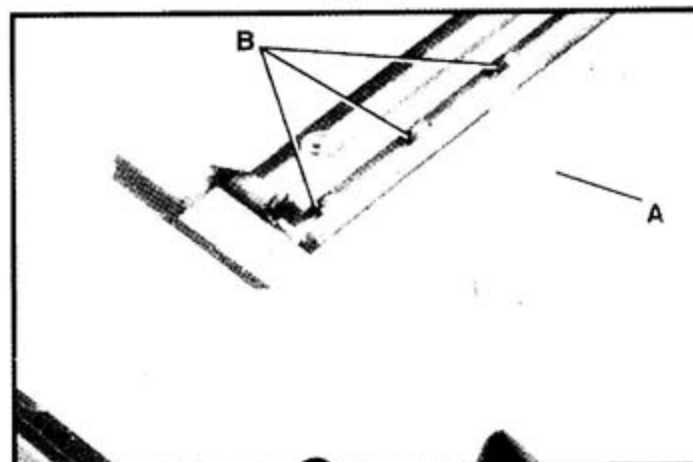
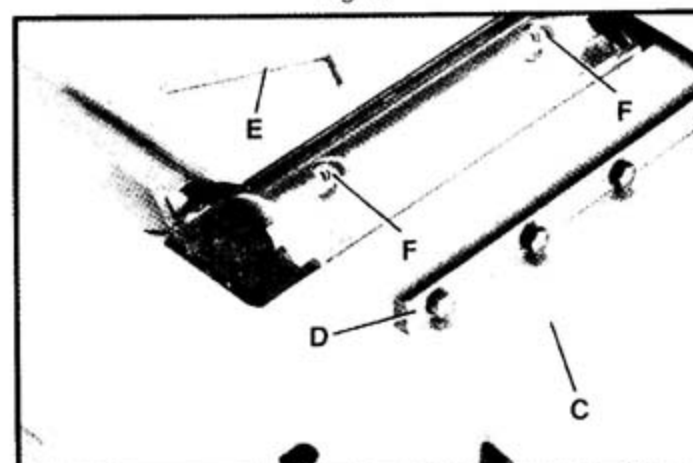
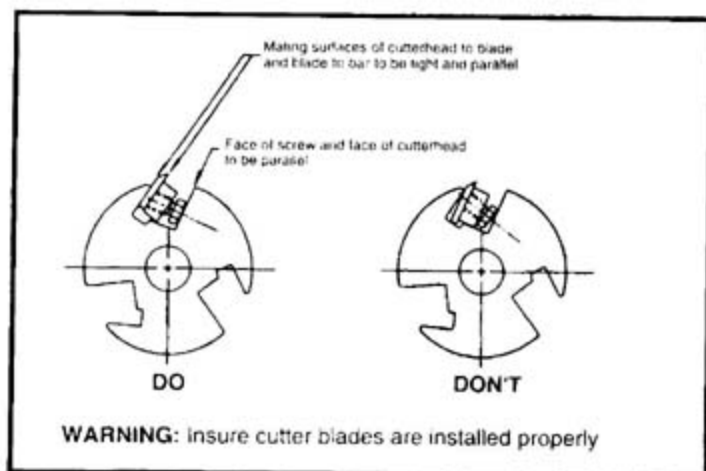

Fig. 57
Fig. 58
Fig. 59
3. Using wrench (A) Fig. 57, slightly loosen the locking screws, three of which are shown at (B) Fig. 57, in each knife slot by turning the screws (B) clockwise. This relieves stress in the cutterhead.
4. Loosen screws (B) Fig. 57, further and remove knife (C) Fig. 58, and knife locking bar (D).
5. Fig. 58, illustrates the knife (C) and knife locking bar (D) removed from the cutterhead. Remove the remaining two knives and locking bars, in the same manner.
6. Using wrench supplied, lower the two knife adjustment blocks by turning screws (F) counterclockwise in all three slots of the cutterhead.
8. Replace the knife locking bars (D) Fig. 58, and knives (C) into each slot in the cutterhead. **WARNING: CARE MUST BE TAKEN WHEN INSERTING THE KNIVES AS THE CUTTING EDGES ARE VERY SHARP.** Push the knife down as far as possible and snug up the five screws (B) Fig. 57, three of which are shown, by turning each screw counterclockwise just enough to hold the knife in position. Replace the remaining two knives in the same manner. **NOTE: KNIVES MUST BE INSTALLED CORRECTLY AS SHOWN IN FIG. 59.**